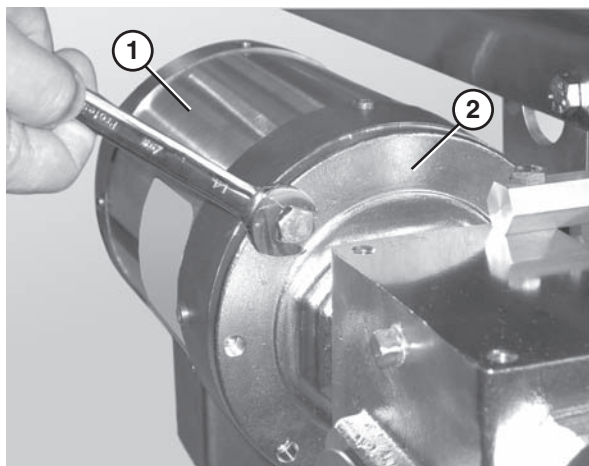

Figure 67
2. Remove the bolts that connect the motor to the drive assembly (**Figure 67**).
3. Remove the motor (**Figure 67, item 1**) from the drive assembly (**Figure 67, item 2**).